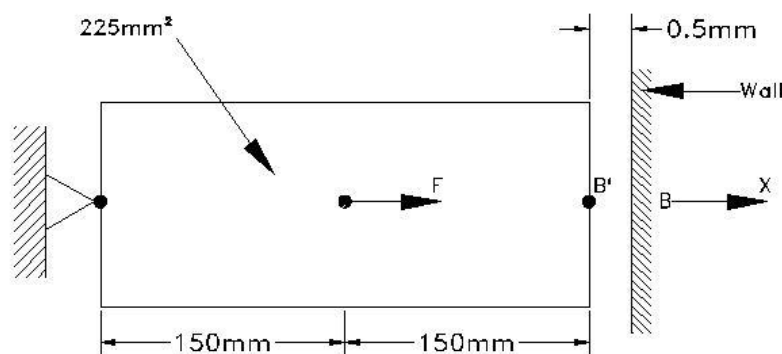

Figure 2
- (c) For the loading system shown in Figure 2 below, determine the displacements and stresses. Assume modulus of elasticity $E = 80 \times 10^3$ N/mm², cross sectional area $A = 225$ mm² and $F = 90$ KN. **07**